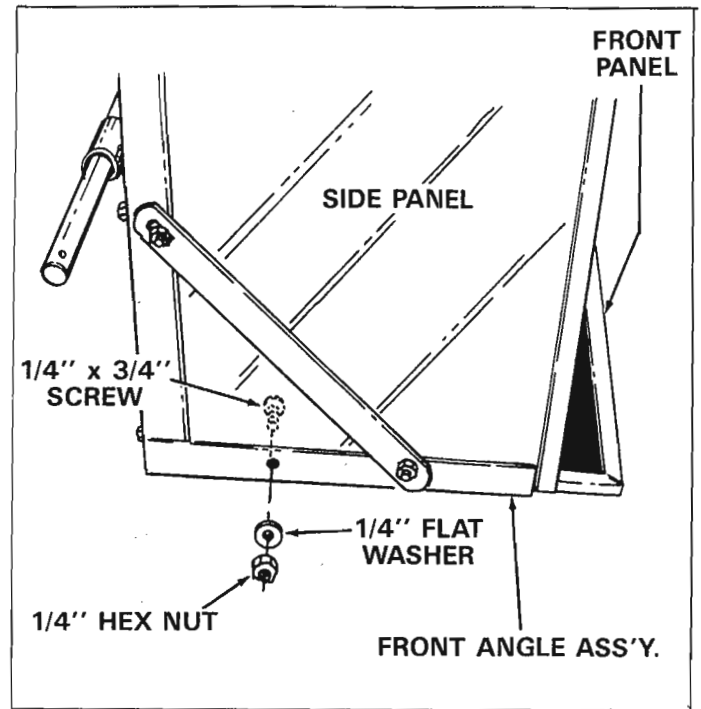

FIGURE 7
- Assemble one $1/4'' \times 3/4''$ truss head screw through bottom hole in side panel and front angle assembly. Secure flat washer and hex nut. See figure 7. **Make only finger tight at this time.**